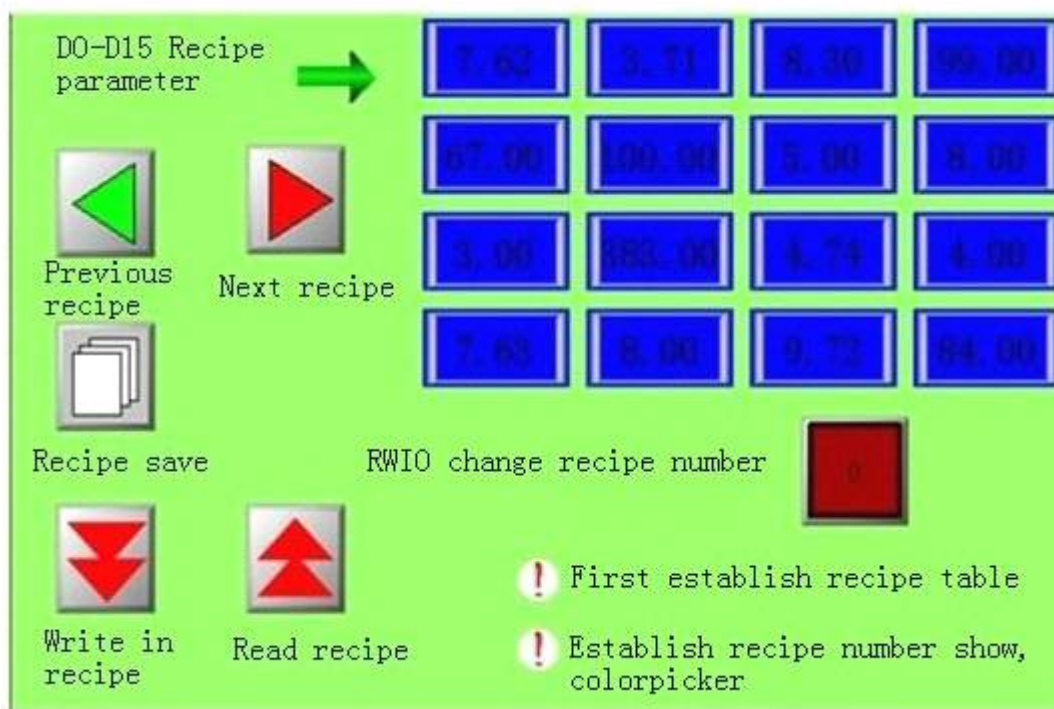

Figure 7-27 Recipe effect diagram
- The screen shown in figure 7-27 can be finished as per above mentioned operations: